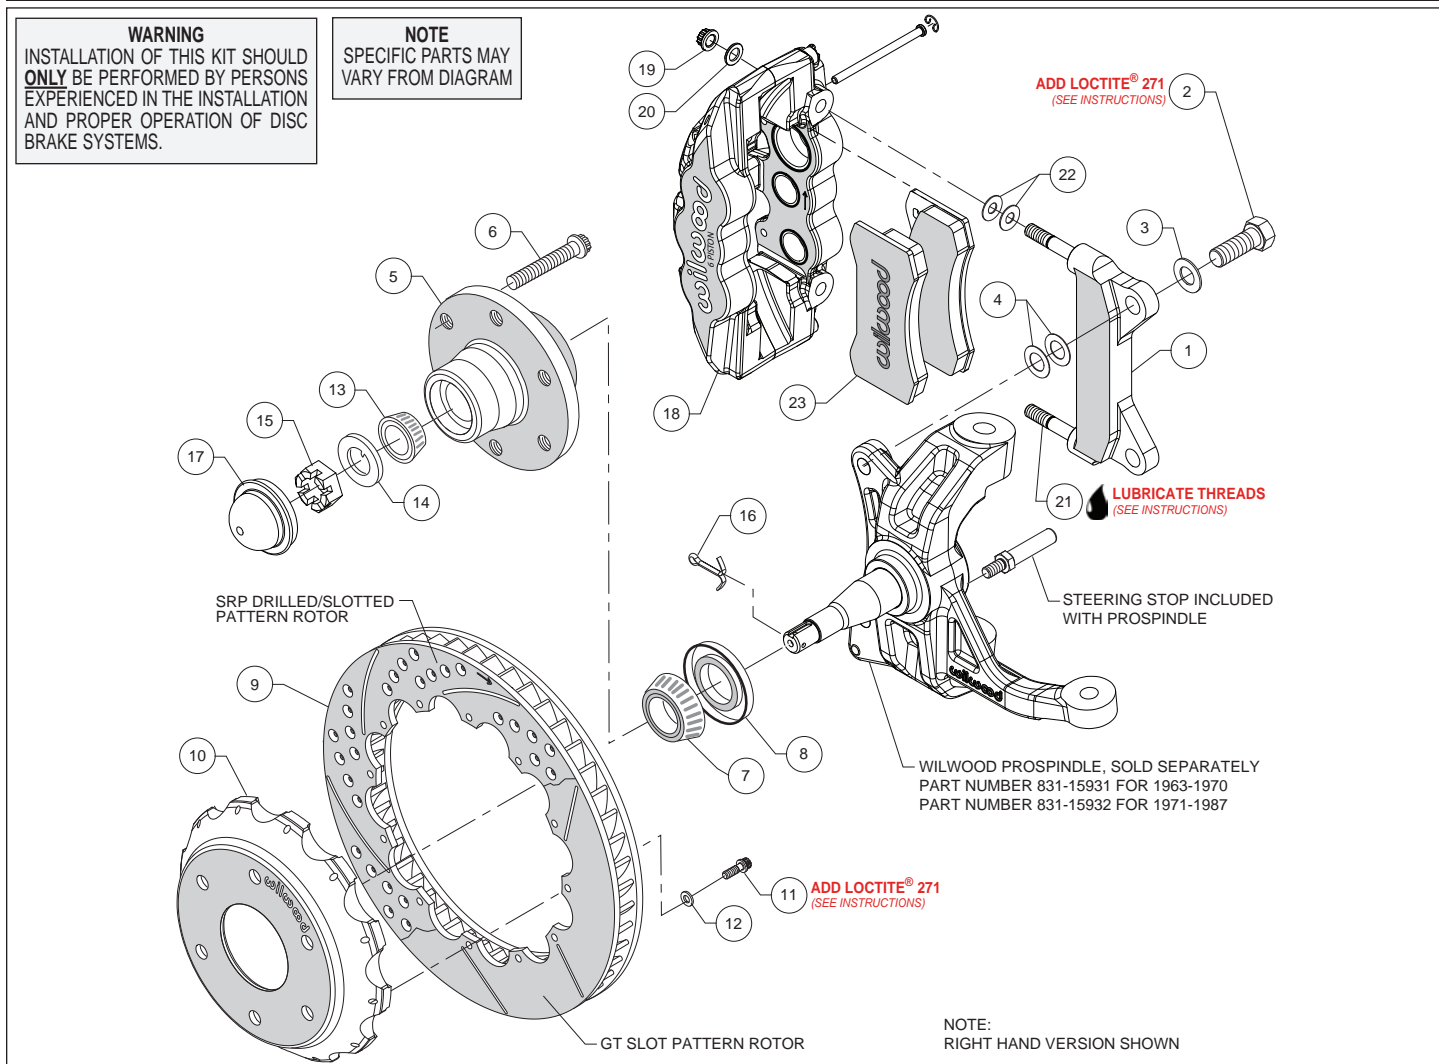
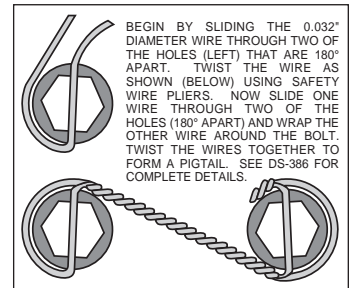

Figure 1. Typical Installation Configuration
Figure 3. Safety Wire Diagram
**Assembly Instructions** (numbers in parenthesis refer to the parts list and Figure 1 on the preceding pages):
- Install the steering stop bolt (included with the ProSpindle) into the spindle as shown in Figure 1 and Photo 1. Torque to 25 ft-lbs.
- The caliper mount bracket (1) should initially be installed with clean, dry threads on the mounting bolts. Orient the bracket, as shown in Figure 1 and Photo 2, and install using bolts (2) and washers (3). Initially place two .024" thick shim (4) on each bolt between the bracket and spindle, Figure 1. Temporarily tighten the mounting bolts. **NOTE:** *The bracket must fit squarely against the mount bosses on the spindle.* Inspect for interference from casting irregularities, machining ridges, burrs, etc. Later, after the caliper alignment has been checked, the mount bolts will be secured using red *Loctite*® 271.
- Press the dust cap (17) into the hub (5). **NOTE:** *Do not hammer center of cap. Install using outer flange only.*
- Orient the rotor (9) and the hat (10) as shown in Figure 1 and Photo 7. Attach rotor to hat using bolts (11) and washers (12). Using an alternating sequence, apply red *Loctite*® 271 to the threads, and torque to 155 **in-lbs**. For an added measure of security, the bolts may be safety wired using standard 0.032 inch diameter stainless steel safety wire as shown in Figure 3. Refer to Wilwood's data sheet DS-386 (available at [www.wilwood.com/Pdf/DataSheets/ds386.pdf](http://www.wilwood.com/Pdf/DataSheets/ds386.pdf)) for complete safety wire installation instructions.
- **NOTE:** *This kit contains distinct right and left hand calipers that must be mounted in a specific direction, as described below.* Lubricate the caliper mounting studs (21) with lightweight oil. Initially place two .030" thick shims (22) on each stud between the caliper and the bracket, as shown in Figure 1 and Photo 9. Mount the caliper (18) onto the bracket (1) using lock nuts (19) and washers (20), Figure 1. Temporarily tighten the lock nuts.
- Remove the caliper (18), then remove the two pad retaining pins from the caliper by carefully popping out the pin retaining clips and sliding out the pins. Insert the brake pads (23) into the caliper from the bottom, Figure 1 and Photo 11. With the friction material facing the rotor, secure the brake pads in place with the pad retaining pins and clips, Photo 12. Reinstall the caliper onto the caliper mounting bracket and temporarily tighten the lock nuts. Check that the top of the brake pad is flush with the outside diameter of the rotor, Photo 13. If not, adjust by adding or subtracting shims (22) between the caliper and the bracket. After the caliper pad height is set, torque the caliper lock nuts (19) to 47 ft-lb.